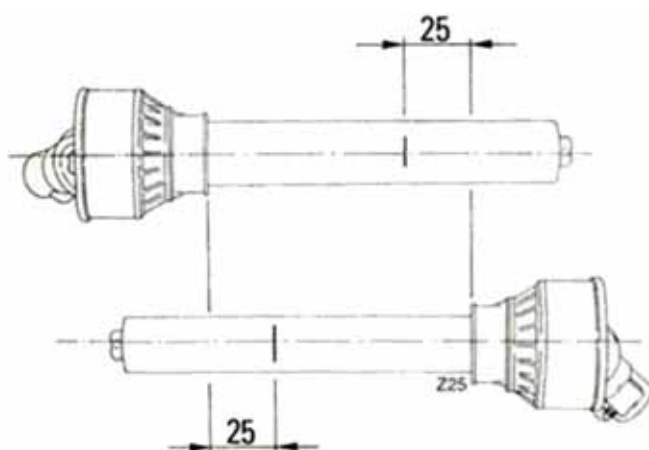

Figure 1
- Use a marker to indicate the location where the two halves must be shortened 25 mm from the beginning of each half as shown below in Figure 1.